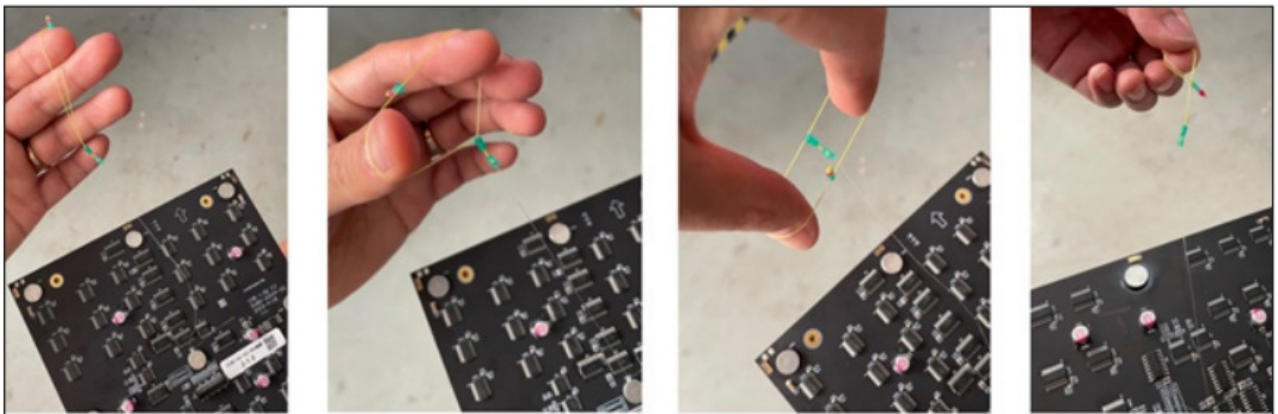

Figure 13: Make a Ring
3. Take the end of the lanyard and make a ring. Refer to Figure 13.